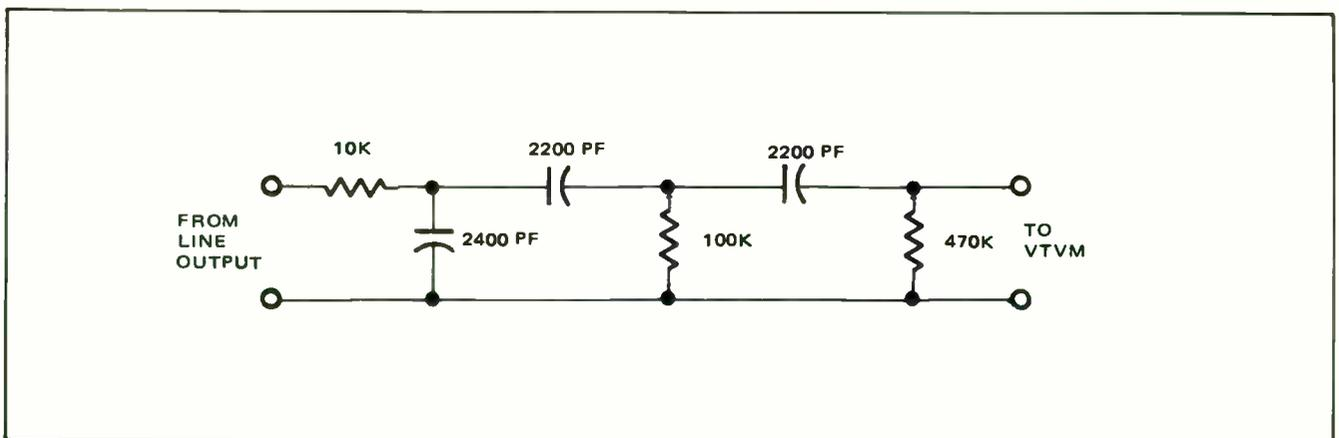

Figure 5-16. ASA "A" Weighted Filter
1. Connect the output connectors of the deck through an "A" weighted filter (see Figure 5-16) to a vtvm, and terminate in 600-ohm load.
1. Disconnect all input signals from the input connectors. Connect channel 1 output connector through an A-weighted filter to a vtm. (See Figure 5-16 for schematic of filter.)